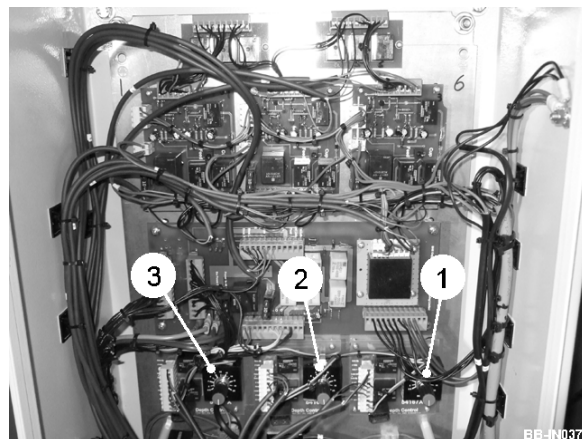

Fig 14
A timer is built into each depth control circuit which is designed to provide a time delay between activation of the 'up' sensor and actuation of the hydraulic control valve. The time delay can be adjusted by turning the relevant dial inside the junction box, LH bed (item 1, fig 14), centre bed (item 2, fig 14) or RH bed (item 3, fig 14). Normally a 3 second delay smoothes out any surface irregularities allowing the opener depth ram to gradually change the opener depth according to changes in bed height.